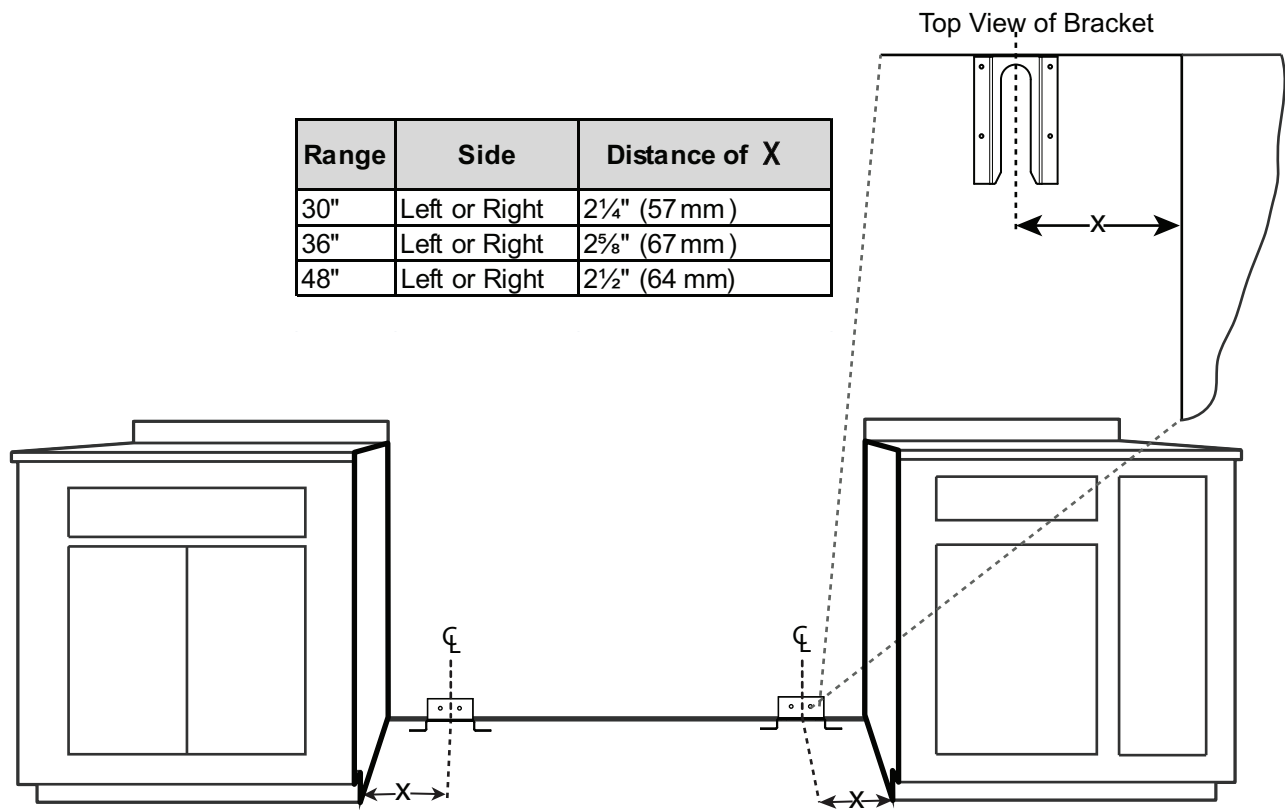
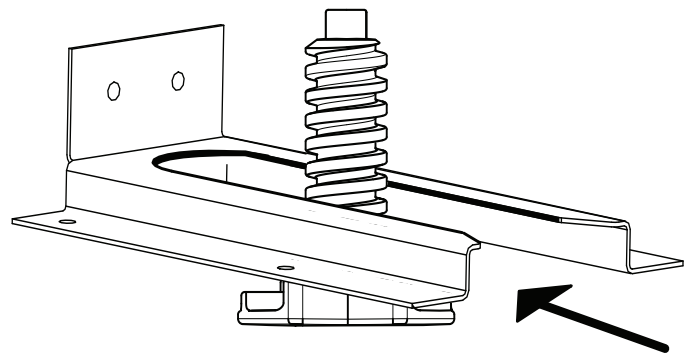

Figure 7: Placement of Anti-Tip Bracket
Figure 8: Anti-Tip Bracket
1. Place bracket on floor in position shown in *Figure 7*.
2. Secure to floor and wall stud using the (4) 1½" (38 mm) Phillips head screws provided.
3. Later, when the unit is installed, the adjustable leg will slide under the bracket, as shown in *Figure 8*.